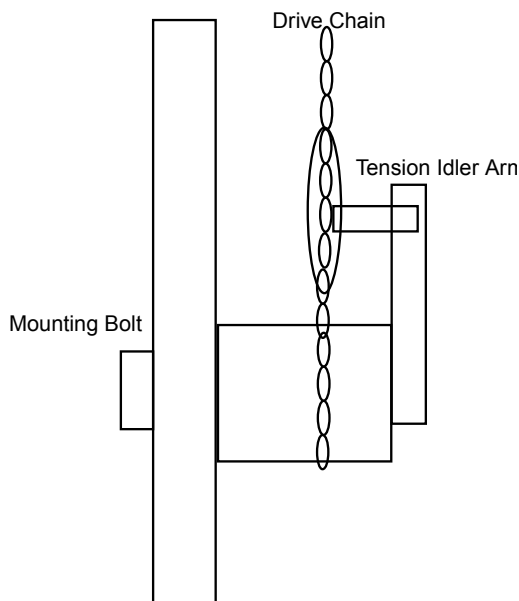

Figure 7-17: After loosening the mounting bolt, use a crescent wrench to move the tensioning idler arm.
4. Locate the idler arm mounting bolt (Figure 7-17) on the other side of the endframe.